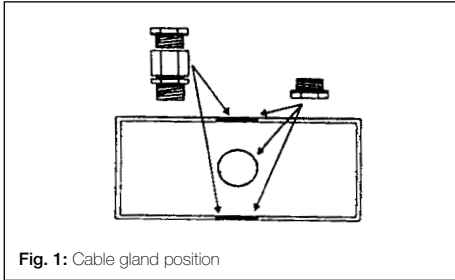

Fig. 1: Cable gland position
6. Make cable entry holes in the plastic and metal boxed by removing suitable knockouts (see fig. 1)